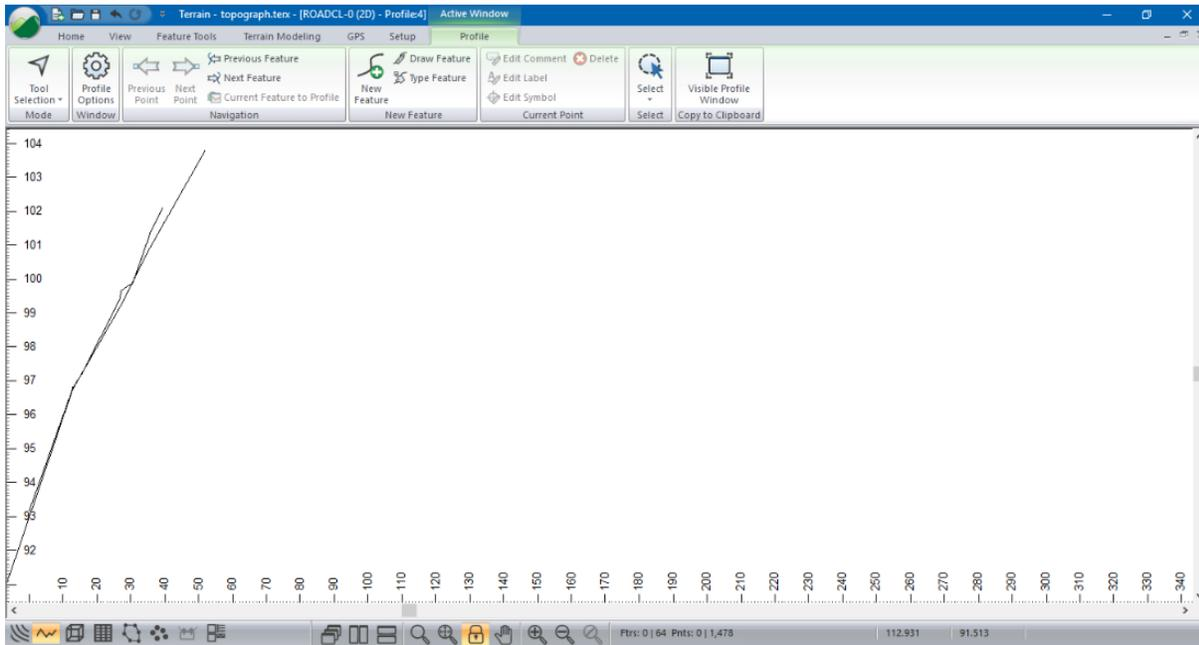

Figure 9-15: Screen Shot of STREAM-2 and SECTION-0 Profile
19. Notice there is another feature in the Profile Window. This is feature STREAM-2 projected onto the SECTION-0 profile. See Figure 9-15.